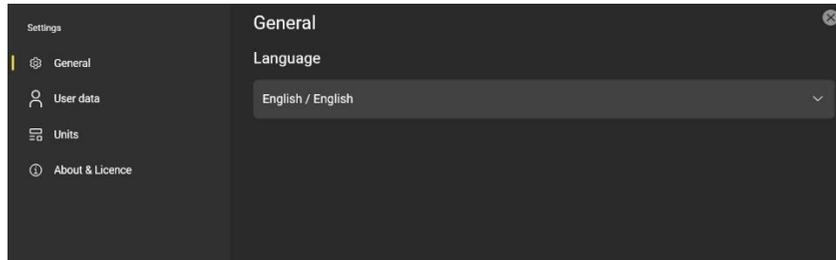

Fig. 16 Language Settings
1. **GENERAL:** select here the Language (Fig. 16),